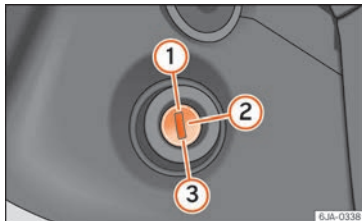

Fig. 211 Ignition key positions.
- When moving with the engine switched off, the ignition key must always remain in position ② » » Fig. 211 » » page 197 (ignition on). The control lamps will light up in this position. Otherwise, the steering lock could engage suddenly. Risk of accident!
- The starter motor may only be used (key position ③ » » Fig. 211 » » page 197 in the ignition) if the engine is off. Using the starter motor when the engine is running could damage it.
- Press the clutch pedal all the way down and start the engine **③** » **Fig. 211** » **page 197**, without pressing the accelerator. Keep the clutch pedal pressed down until the engine starts.
- Release the ignition key as soon as the engine starts. The key returns to position **②**.
- If the engine does not start after 10 seconds, turn the key back to position ①. Repeat the action after 30 seconds.
Stop the engine by turning the ignition key to position ① » Fig. 211 » page 197.